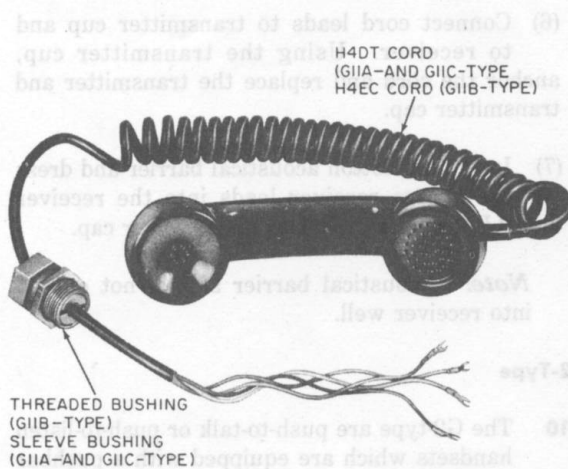

Fig. 4—G11-Type Handsets
- Revise Fig. 1, 2, and 12, and replace Fig. 4 and 6